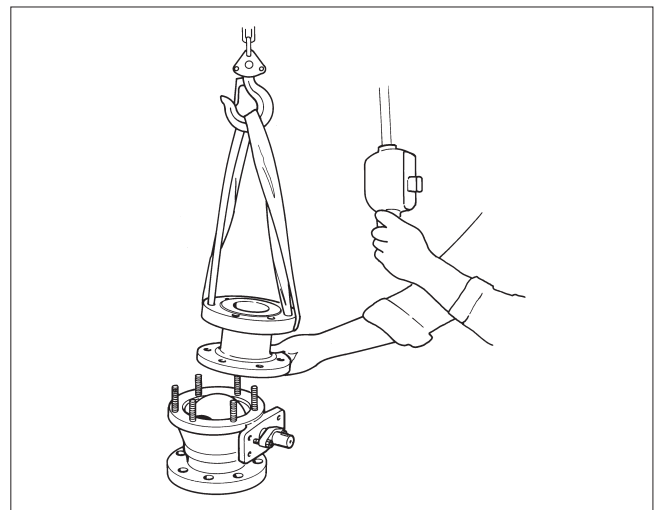

Fig. 15 Lifting the body cap
- Place the valve so that the body's hexagon nuts (16) / body cap (2) point upwards. Use a surface that does not damage the flanges.
- Loosen the gland nuts (18).
- Loosen the body nuts (16).
- Remove the body cap (2) from the valve. Ball seat (7, 25) should stay on the body cap, keep it from falling while you are lifting it out by putting your fingers under the body cap (small sizes) or in the flow bore (large sizes). **Watch out for your hand!** Lower the body cap onto the surface in a standing position, i.e. onto its flange. See Figure 15.